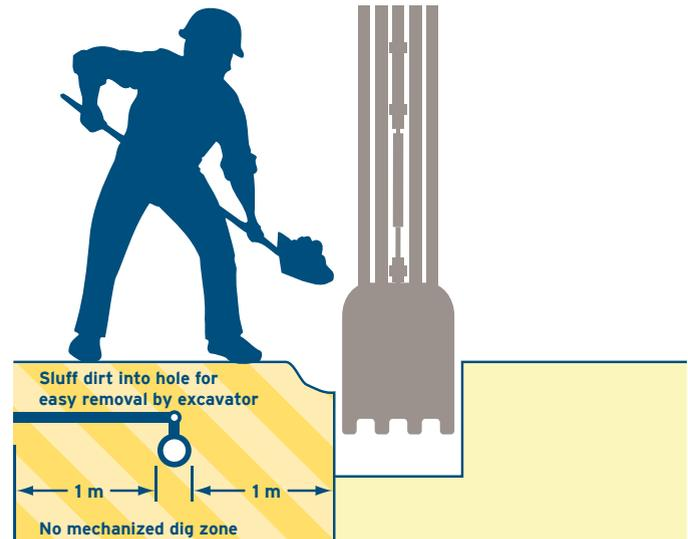

FIG. 1 - Hand digging for a gas line
- use mechanical equipment only to remove surface cover. You must hand expose the gas line within the no mechanical dig zone in a sufficient number of locations to determine the exact positions and depths of the installation before further use of mechanical excavation equipment. (see FIG. 1)